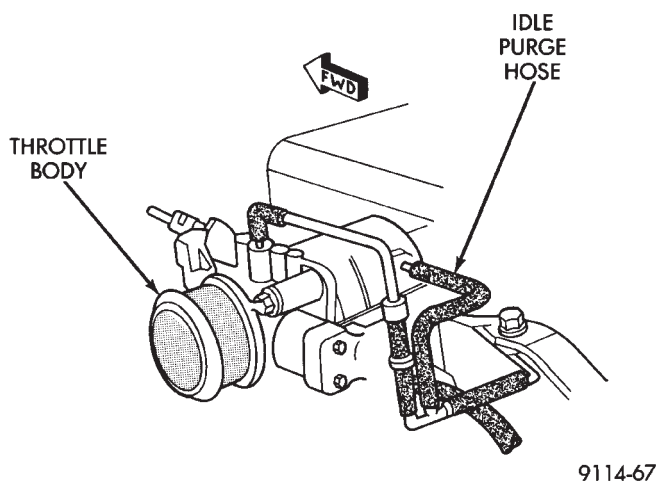

Fig. 24 3.0L Idle Purge Hose
(8) Disconnect the idle purge hose from the engine vacuum harness tee (Fig. 24).